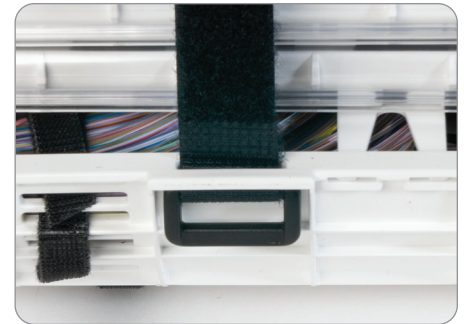

Figure 48
5. Pull the two Velcro straps through the horizontal and vertical strap slots soft side up. (Figure 48)